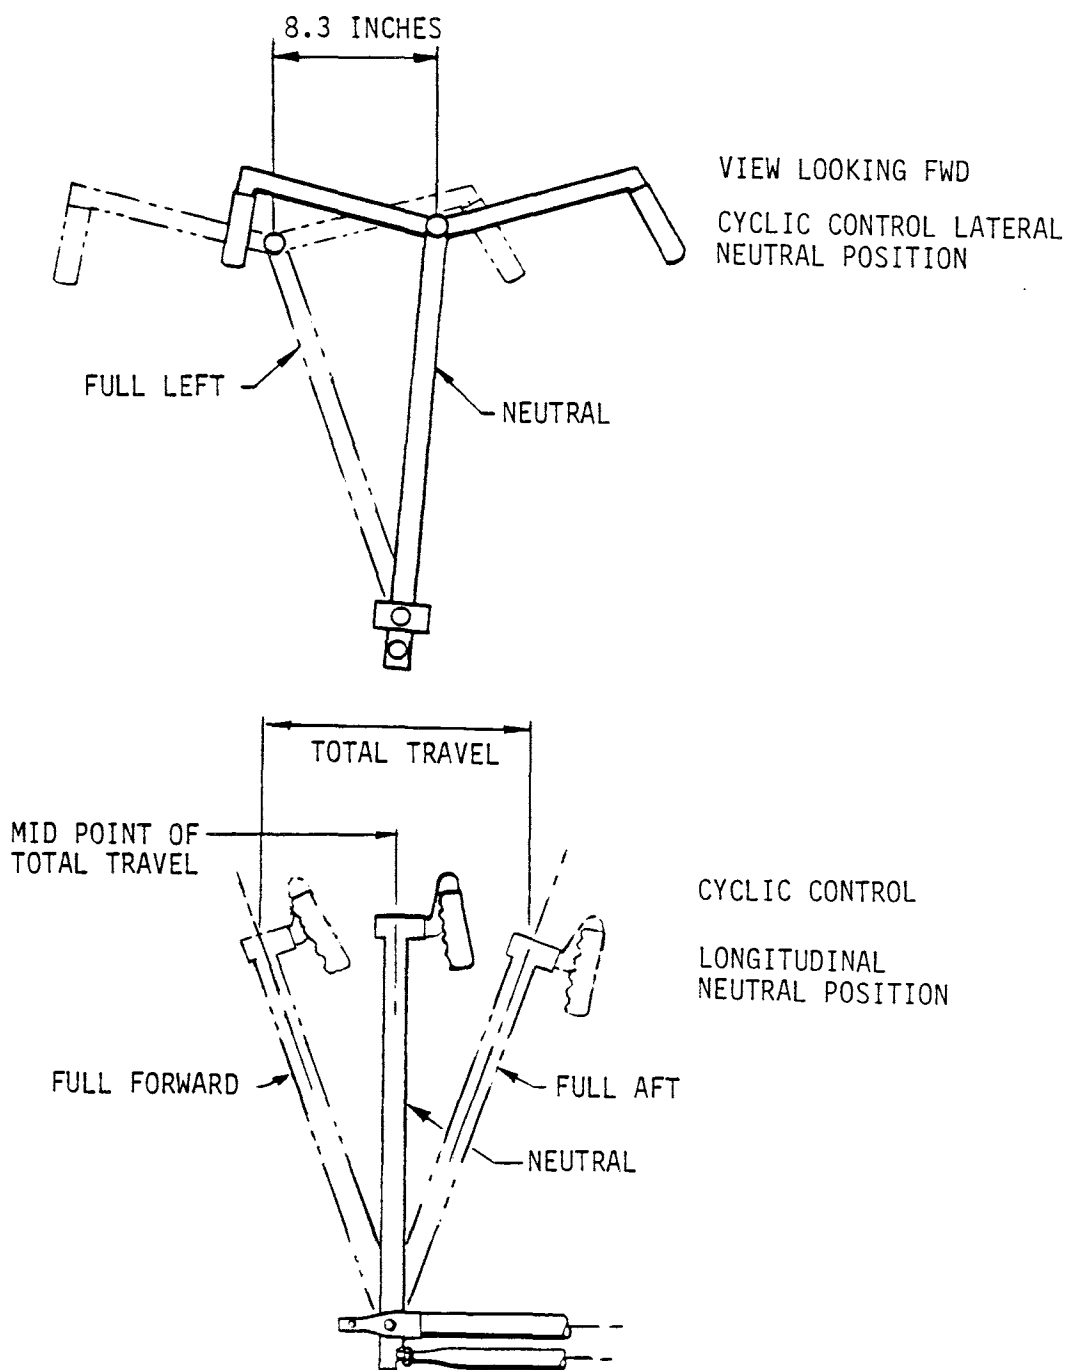

FIGURE 10-1 CYCLIC CONTROL STICK NEUTRAL POSITION
- d) Place the cyclic control in the neutral position. This point is 8.3 inches to the right of full left travel and at the mid-point of the total fore and aft travel. (See Figure 10-1). Place the collective control full down.
1. Place the cyclic control in the neutral position (See Figure 10-1). Place the collective control full down. Apply full cyclic and collective friction.